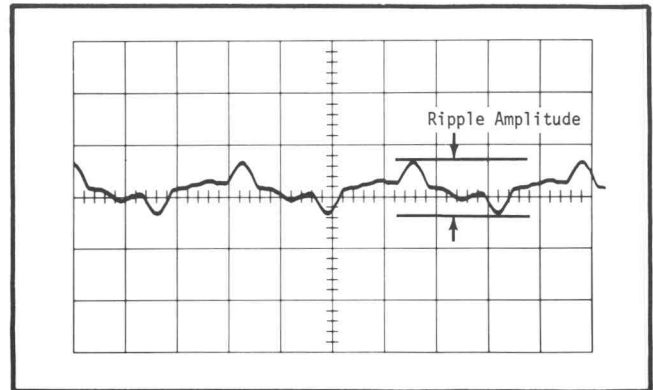

Fig. 4-4. Typical Ripple waveform.
- c. Adjust the test oscilloscope for a convenient display. A typical waveform is illustrated in Fig. 4-4.